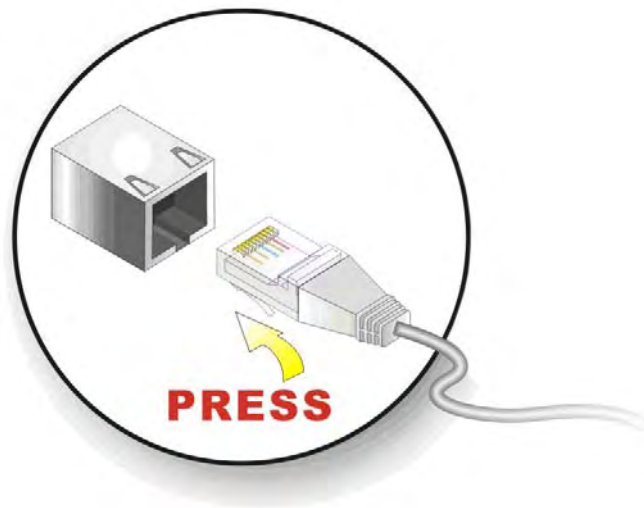

Figure 5-20: LAN Connection
Step 2: Align the connectors. Align the RJ-45 connector on the LAN cable with one of the RJ-45 connectors on the 3307740. See **Figure 5-20**.
Step 2: Align the connectors. Align the USB device connector with one of the connectors on the 3307740. See Figure 5-20.